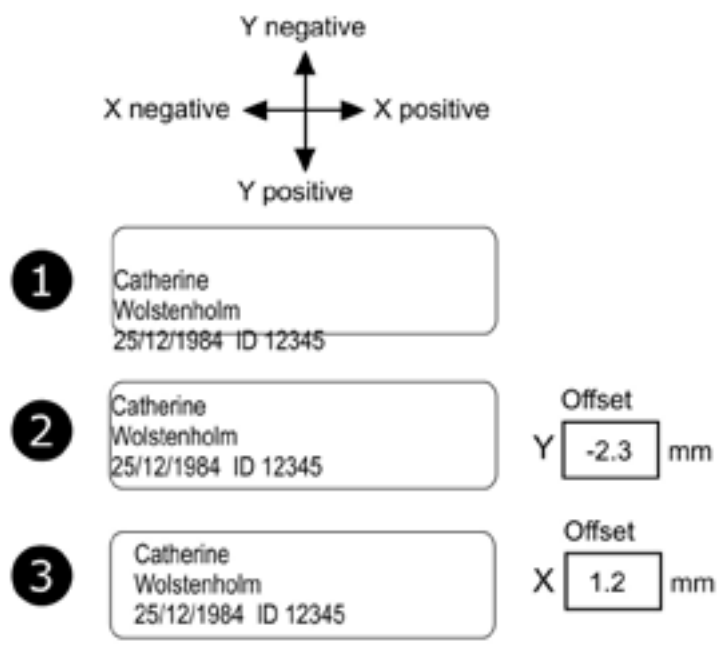

Figure 6-22 Label text alignment
4. Check the printed sheet. Measure the offsets required to correctly position the printed details within a label boundary. Pay particular attention to vertical positioning within the smallest label. See Figure 6-22.
The example shown in Figure 6-22 shows details of an alignment correction within the boundary of the smallest label.